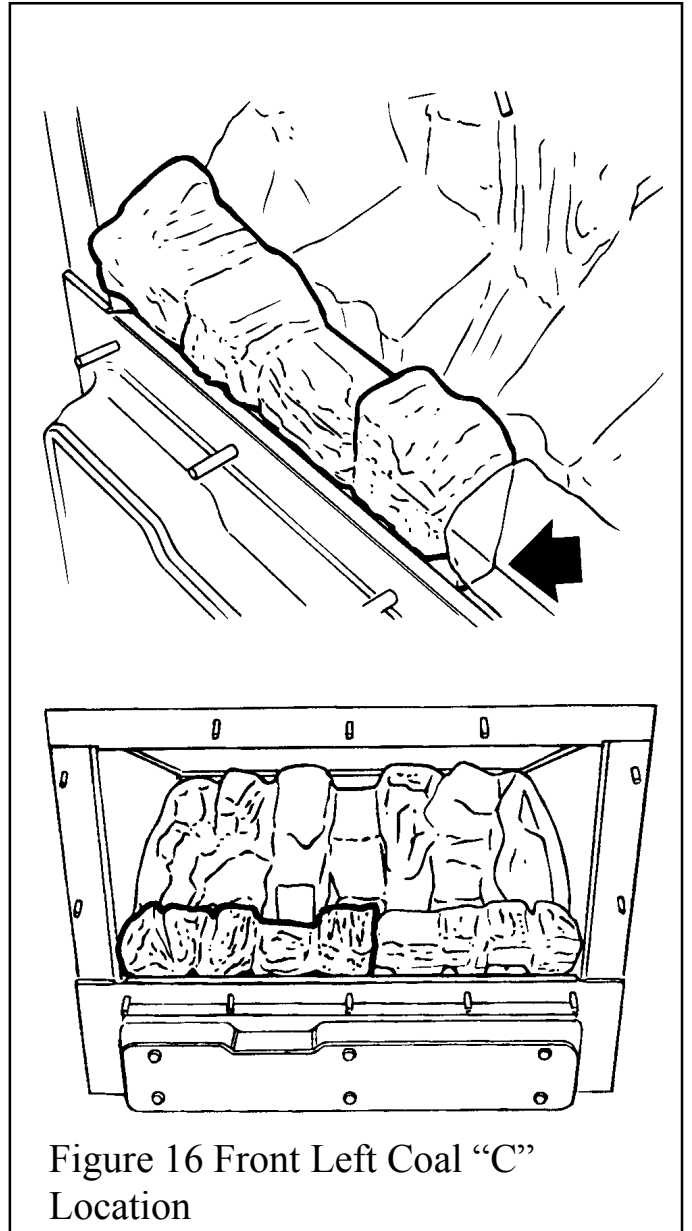

Figure 16 Front Left Coal "C"
10.3 Place the front left coal (embossed 'C' underneath) in position at the side of the first coal. The flat bottom front face of the coal should rest on the metal ledge immediately behind the bottom front of the firebox opening. See figure 16.